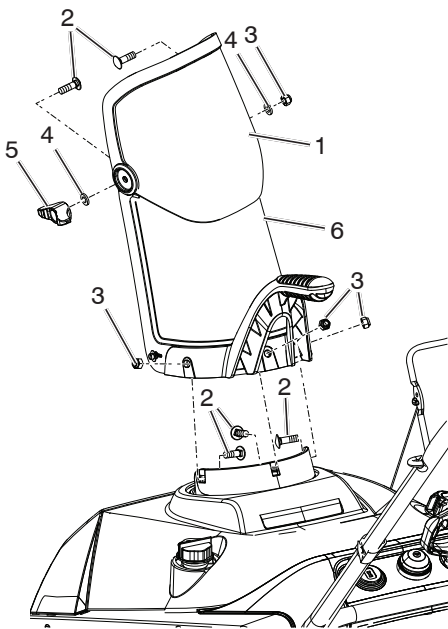

Figure 4
- Install the chute deflector to the discharge chute using two screws, washers, nut and deflector knob (Figure 4).
- Install the discharge chute to the chute base using three screws and nuts (Figure 4).